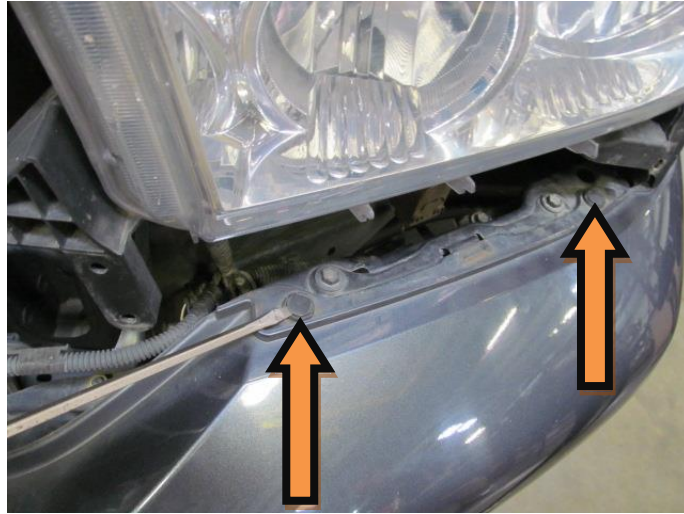

FIGURE 5:
4. REMOVE TWO CLIPS FROM NEWLY EXPOSE COMPARTMENT (BOTH SIDES) SEE FIGURE 5.